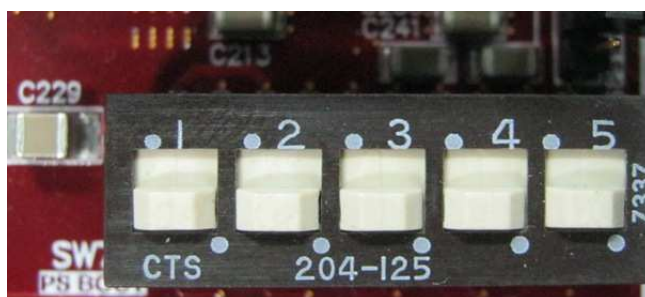

Figure 4-3 SW7 setting to configure PS from JTAG on Zynq Mini-ITX
- i. Set SW7="00000" to configure PS from JTAG, as shown in Figure 4-3.